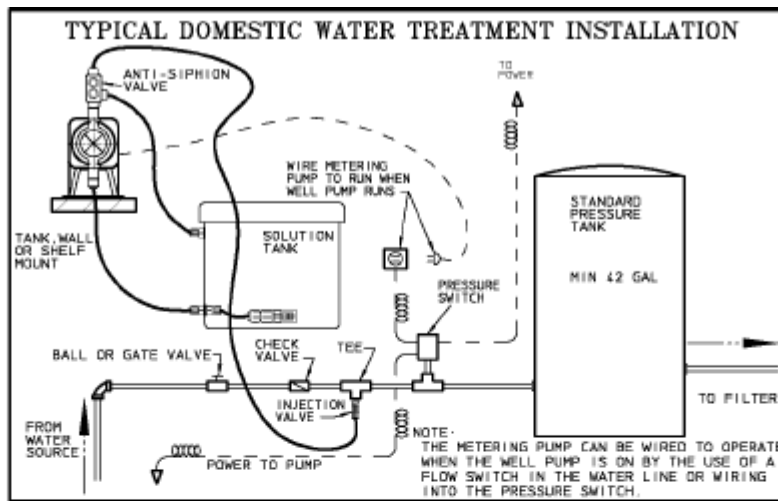

FIGURE G1
19. The pump is designed to operate using a backpressure/injection valve. If the discharge point is below the liquid level of the source or if the discharge pressure is less than the suction pressure, siphoning may occur. To correct this condition, install an anti-siphon valve or other anti-siphon device. Check local regulations which may apply. (Ref. Figure G1).
- USE AN ANTI-SIPHON VALVE IN THE DISCHARGE LINE whenever the fluid pressure in the discharge line is below atmospheric pressure. This can occur if the injection point is on the suction side of a water pump or against a "negative" head such as when feeding down into a well, SEE FIGURE G1.
2. Install the backpressure/injection (Figure I) on the discharge side of the metering pump into a tee which is installed into the water line going to the pressure tank. Typical installations are found in figures G1, G2 and G3.